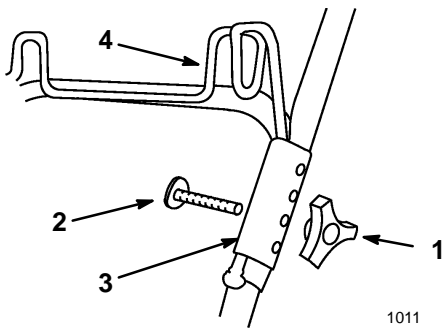

Figure 37
- Remove the knob and bolt securing the left side upper and lower handle sections (Fig. 37).
- B. Remove the bolts and knobs securing the hanger clamps to the handle sections (Fig. 37).